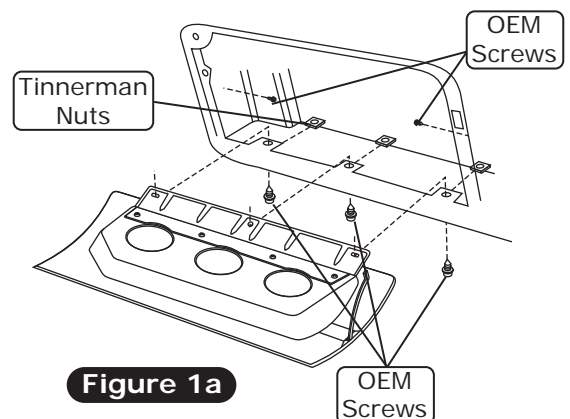

Figure 1a
3. Reinstall the glove box door using (3) OEM screws through the Tinnerman nuts (See Figure 1a, below).
4. Secure the glove box using (2) OEM screws (See Figure 1a, below).